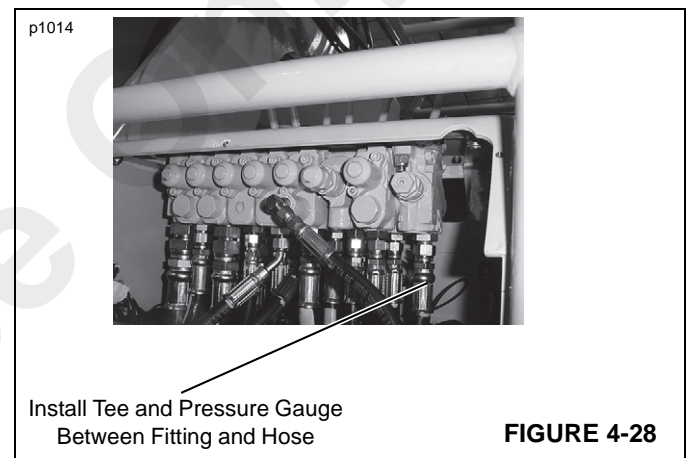

FIGURE 4-28
2. Remove the access panel at the front of the dash panel (Figure 4-28). Install a tee, with a 0 - 344.50 bar (0 - 5000 psi) pressure gauge attached, between the front hose and fitting installed in the swing section of the main control valve.